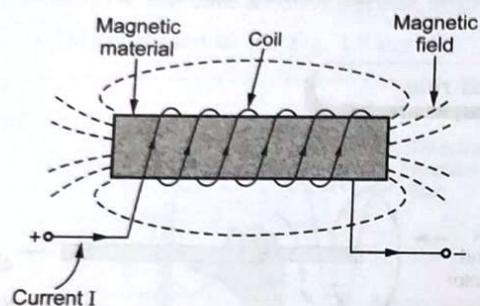

Fig. 1.8.1 An electromagnet
- The Fig. 1.8.1 shows the concept of an electromagnet.